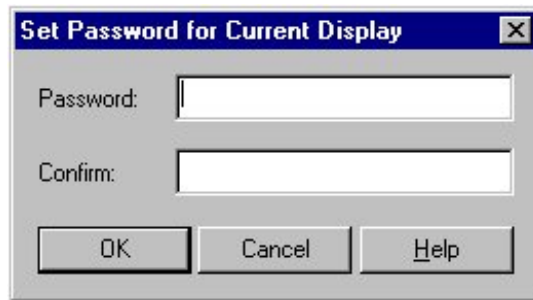

Figure 4-12: Set Password for Current Display
1. On the Format menu, select Configuration Mode Password. The Set Password for Current Display dialog box appears (Figure 4-12).